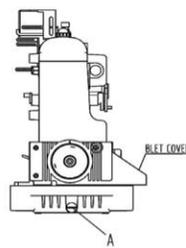
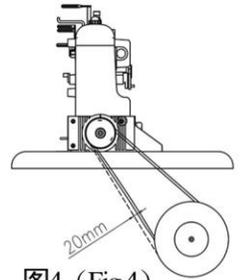

图3 (Fig.3)
图4 (Fig.4)
2、马达转向为顺时针方向，皮带的松紧度以手指向内压下20mm宜为，同时为安全起见，把皮带轮盖必须锁上。（图3&4）
2、Mount the machine head over the rest board Connect the machine hand wheel to the clutch motor with the V-belt.Adjust the tension of the V-belt so that it can be about 20 mm bent inward when you presse the center of V-belt and make sure the clutch motor turning direction is clockwise as shown Figure 3.Install the belt cover according to Figure 4.
(2) 润滑油的更换 (图3)
2. Lubricant oil change :(Fig.3)